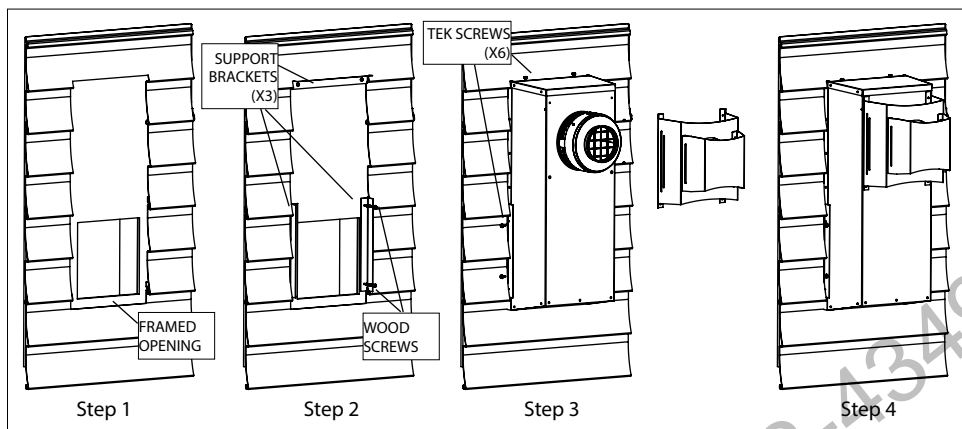

Figure 8 - Snorkel Installation
2. If installing the snorkel with Vinyl Siding, cut siding away per **Fig.8,9**. Dimensions in **Table 2** are from center-line of pipe.
3. Install support brackets with wall side flanges going inward, Snorkel will be installed over these flanges (**Fig.8 Step 2-3**). Apply non-hardening sealant prior to and after installation to ensure a tight seal.